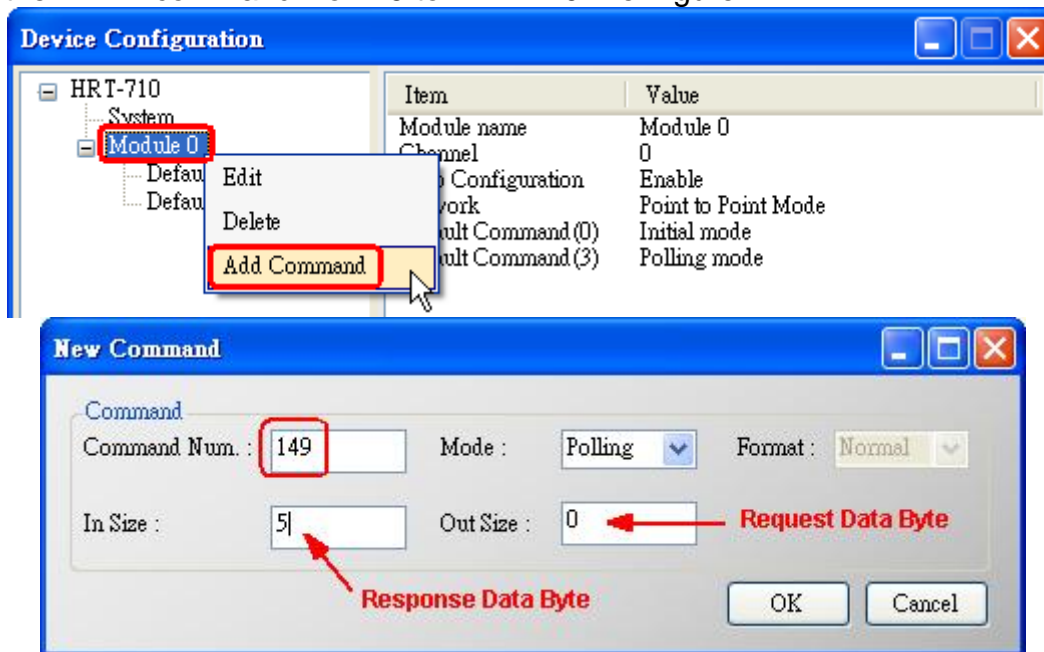

Figure 11-2 Add the HART command No.149 to HRT-710
2. Add the HART command No.149 to HRT-710 like Figure 11-2.